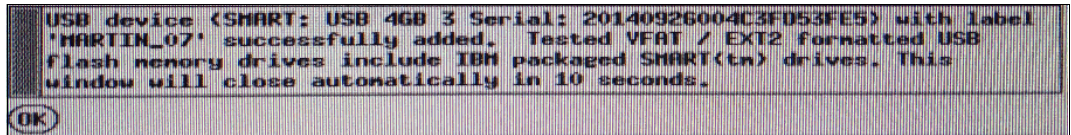

Figure 7-14 Removable media inserted
1. Before you export a source file, prepare the USB flash drive that is supported by the HMC, and insert it into the USB port of the HMC. When the flash drive is recognized by the HMC, the window that is shown in Figure 7-14 is displayed.
1. Before you import the source file, insert the USB flash drive that contains OSA-ICC source file. When the USB flash drive is recognized by the HMC, the window that is shown in Figure 7-14 on page 151 opens.